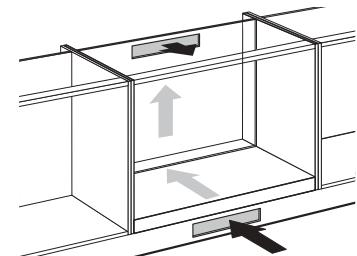

Fig. 10: Ventilation openings
- Saw out the ventilation openings (min. 100 cm2). Ventilation takes place via plinth and rear of cupboard (see figure 10).